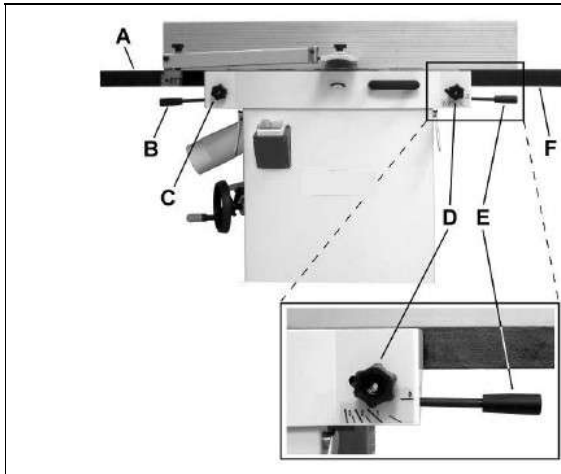

Figure 6
Referring to Figure 6:
2. Loosen the lock knob (A) and slide the cutterhead guard (B, C) to clear the table.
5. Place a straight edge (D) across the front of the outfeed table (F) and extending over the infeed table (G). Note the position of the infeed table (G). Note the position of the straight edge in Figure 6 with respect to the fence (H).
6. Raise the infeed table (G) until it contacts the straight edge (D).